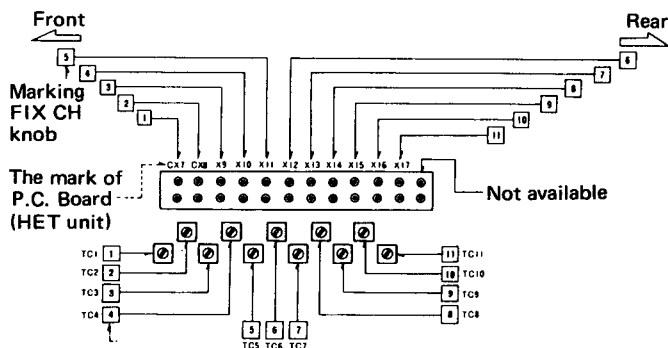

Fig. 14 HET Unit (X50-1410-61)
When fixed channel crystal oscillators are added in the transceiver, adjust their frequencies as outlined below (the relationship between the markings on the FIX CH knob and the crystal oscillator sockets are shown in Fig. 14):
3. Pull out the DISPLAY PULL 7-DIGIT (FM) switch inside the TS-700S.
6. While observing the digital display, adjust the trimmer corresponding to the crystal-inserted socket using an insulated screw driver until the digital display reads the specified frequency (see Fig. 14).